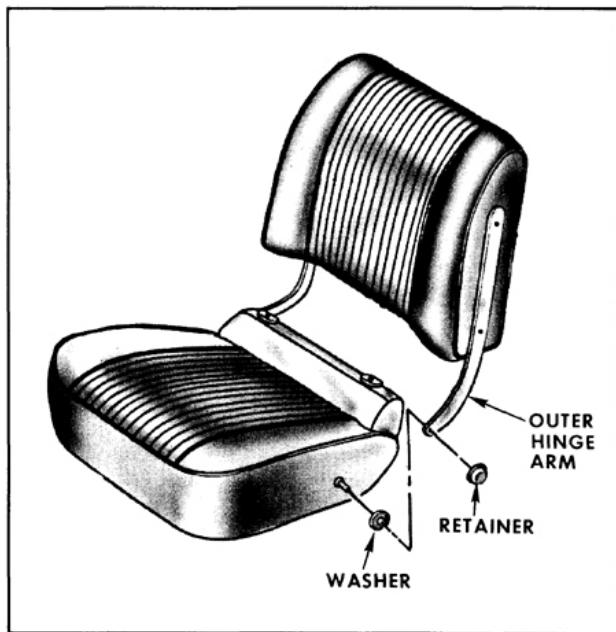

Fig. 16-388 Bucket Seat Back Removal
1. Using a flat-bladed tool, carefully remove retainer from outer hinge pin. (Fig. 16-388)